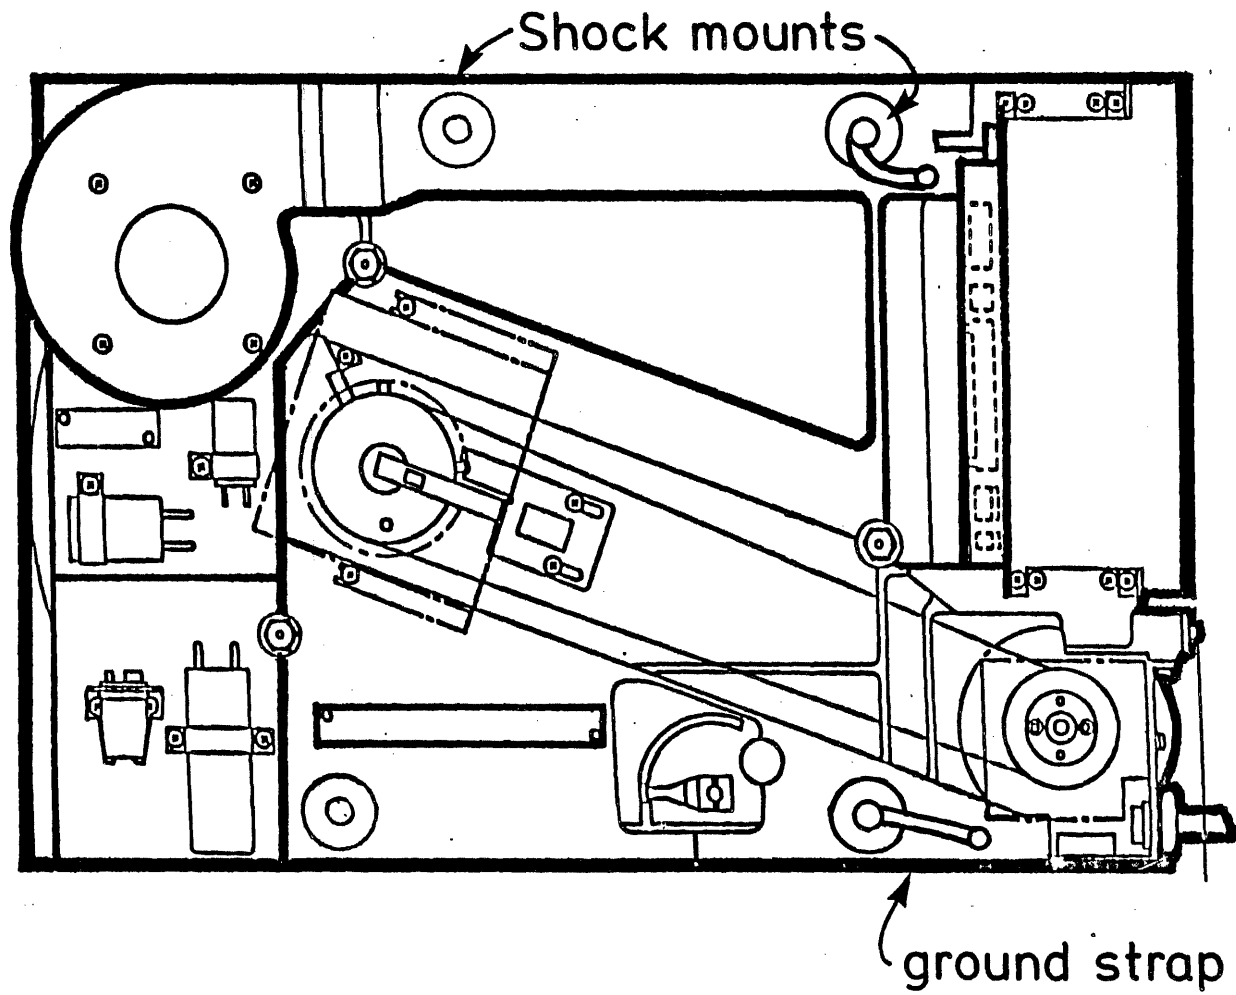

Fig 4A
15. Set the drive gently down on the floor. Lift the drive up on its side with the motor side down (see Figure 4A).